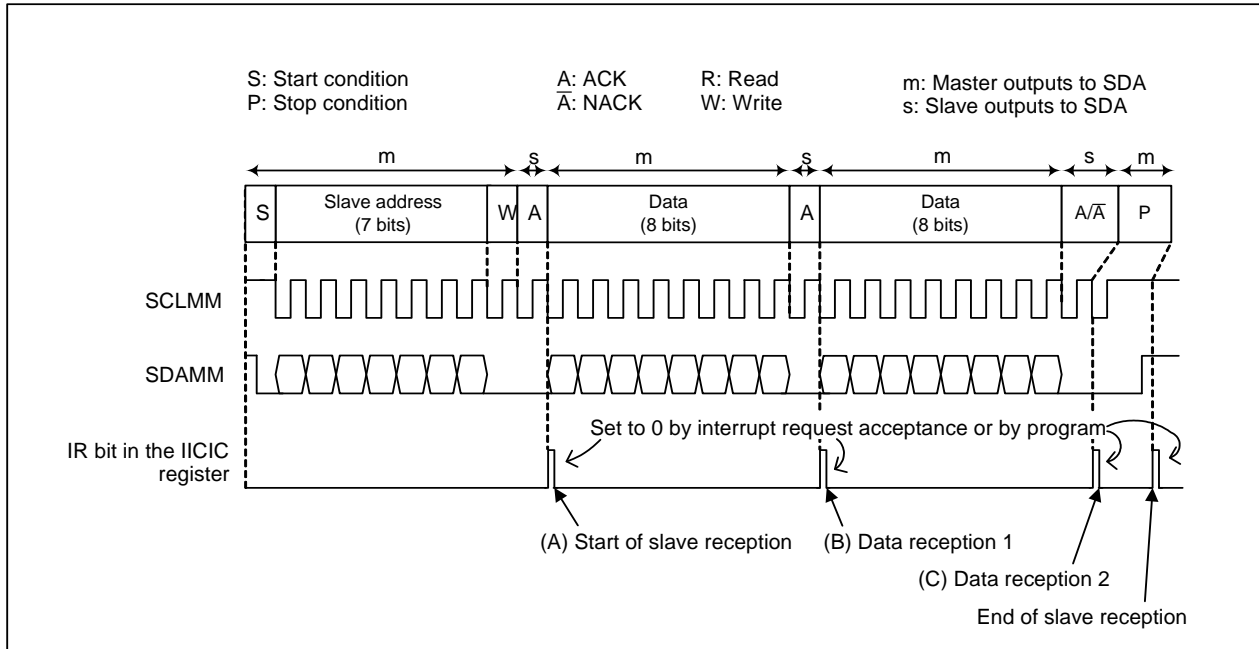

Figure 25.19 Example of Slave Reception
- (1) Read the received data from the S00 register
- (2) Write C0h to the S10 register. (Stop condition standby state)
- (3) Write a dummy data to the S00 register (stop condition generated)
The slave reception is described in this section. The initial settings described in 25.3.10.1 “Initial Setting” are assumed to be completed. Figure 25.19 shows the example of slave reception. The following programs (A) to (C) are executed at the (A) to (C) in Figure 25.19, respectively.